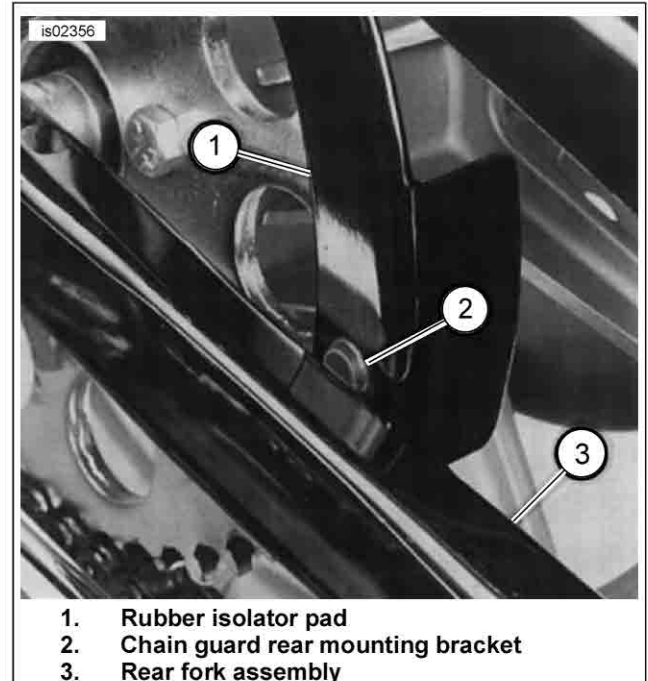

Figure 1. Rubber Isolator Pad - Installed
- See Figure 1. On chain drive models prior to 1991 model year only, rubber isolator pad (1) (from kit) will need to be attached to original chain guard before chain guard is installed onto motorcycle. Thoroughly clean outboard surface of chain guard rear mounting bracket (2) (specifically, the section of the bracket which guards upper front quarter of rear chain sprocket), removing any dirt, grease, or oil. Remove the release paper from adhesive-backed rubber isolator pad. Position and attach adhesive side of pad to chain guard rear mounting bracket, as shown, such that entire outboard surface of pad will bear against inboard surface of rear fork assembly (3) when chain guard is installed.